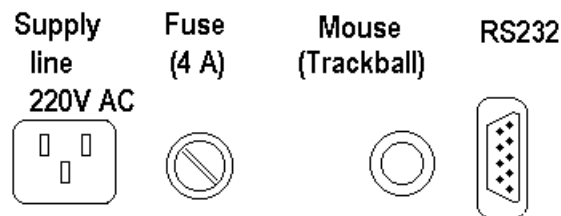

Fig. 2.1 Cables connection on rear panel
- The hardware console has to be plugged into the power socket Fig. 2.1, but power switch at the console should remain in the **OFF** position (the key is in a vertical position).